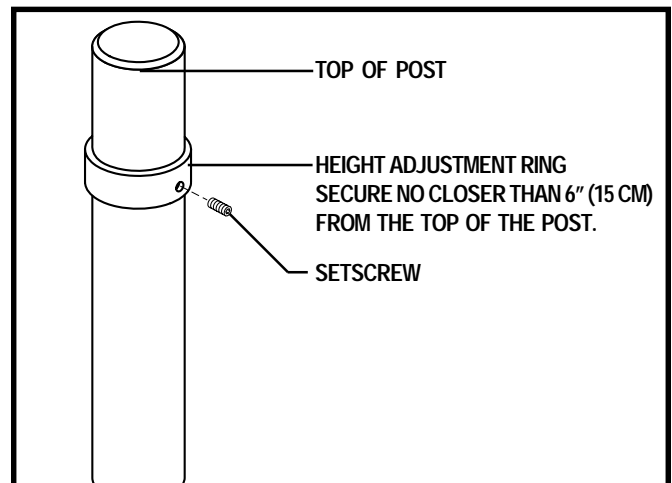

Figure 8. Height Adjustment Ring Position
The placement of the height adjustment ring determines the height of the motor housing. **See figure 8.**
1. Loosen the setscrew on the ring. **See figure 8.**